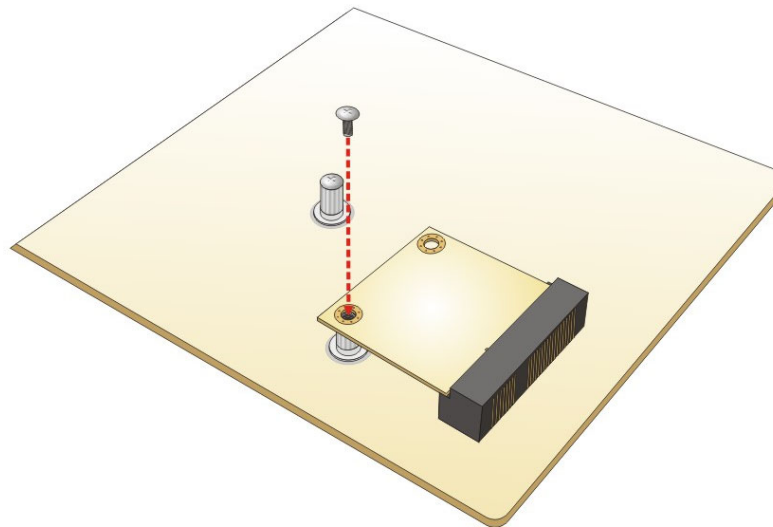

Figure 4-13: Securing the Half-size PCIe Mini Card
Step 4: **Secure the half-size PCIe Mini card.** Secure the half-size PCIe Mini card with the supplied retention screw (**Figure 4-13**).